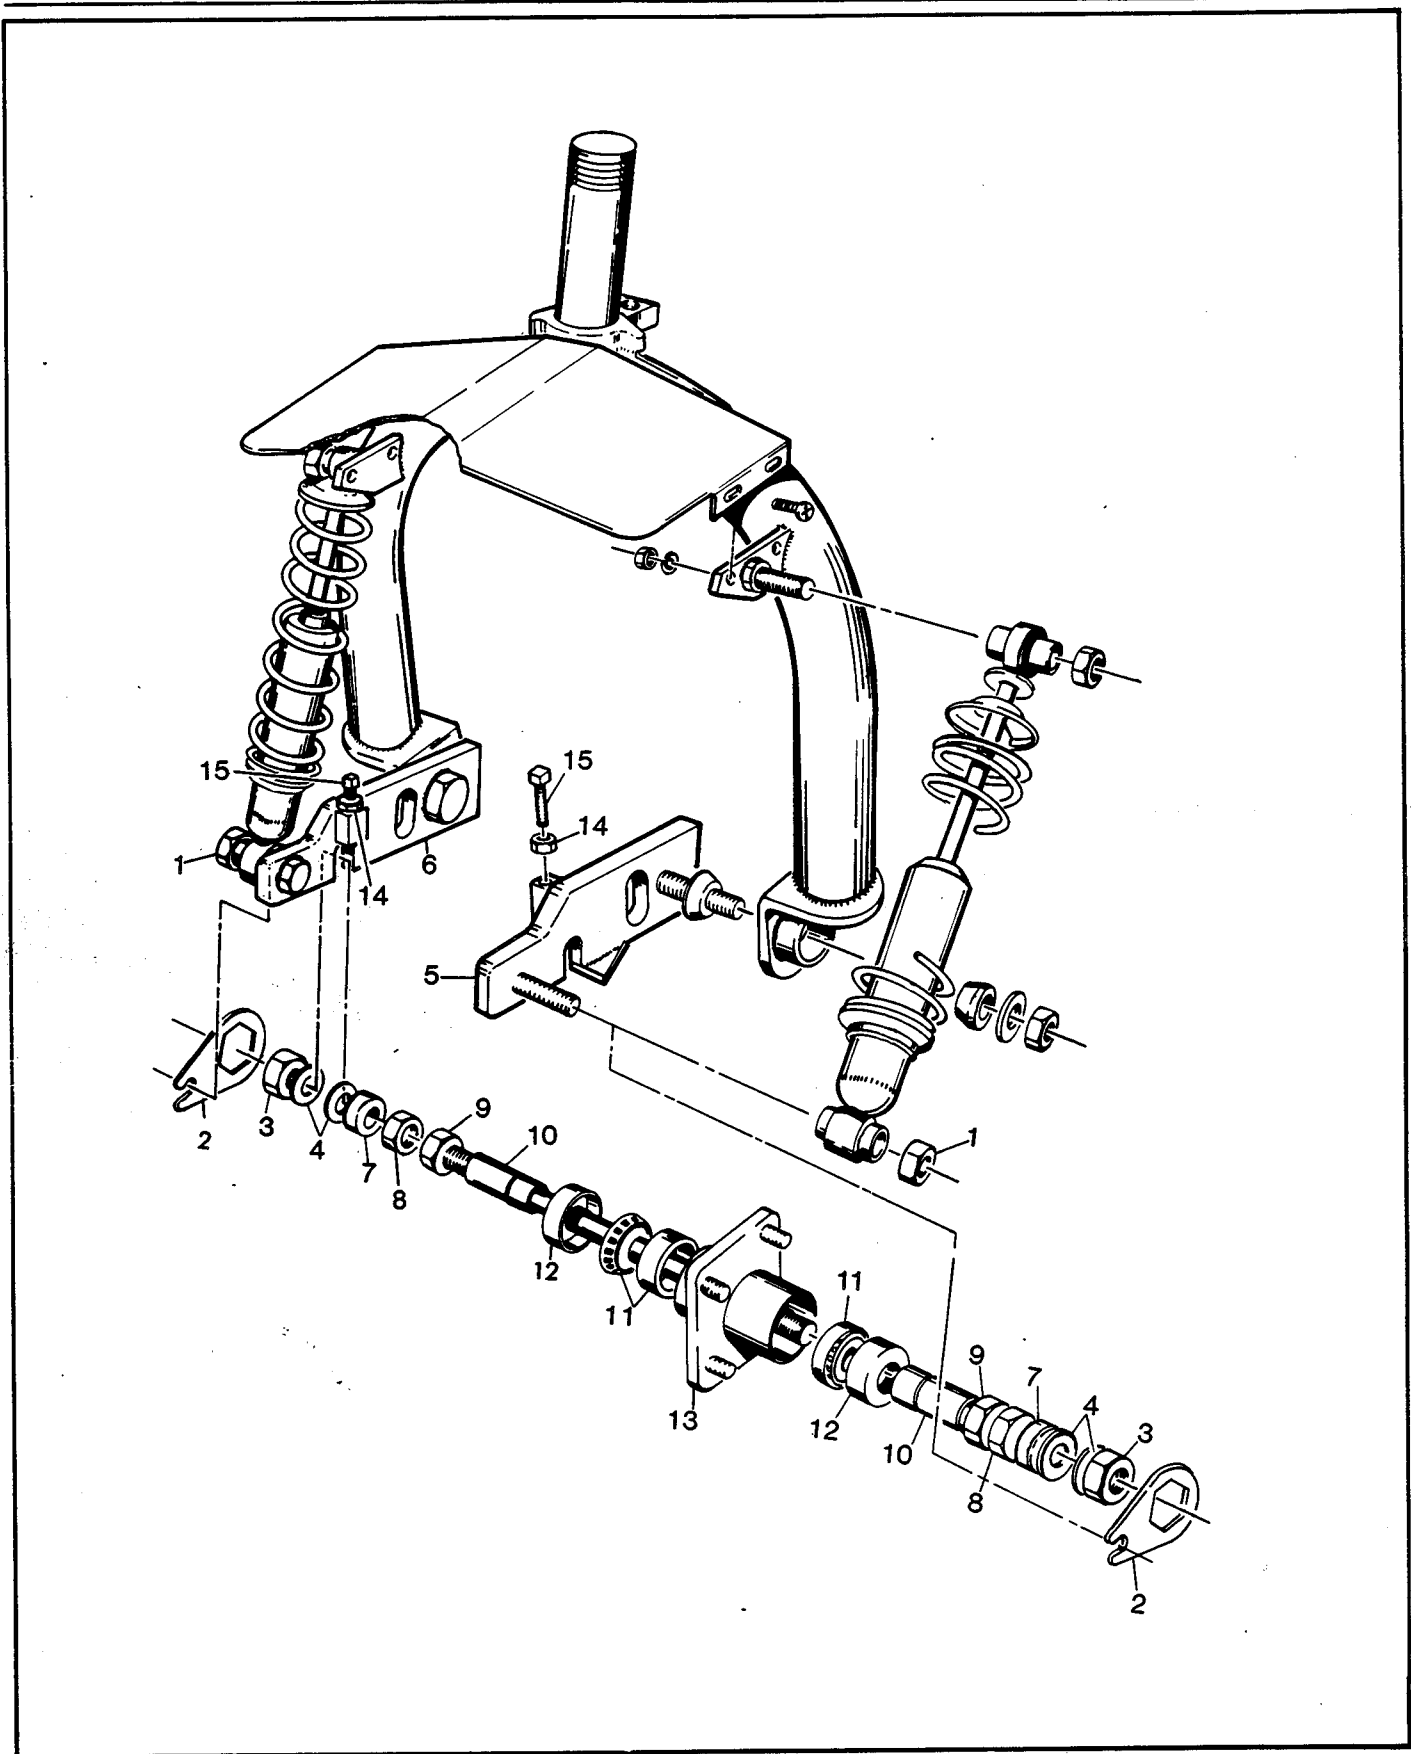

FIG. E-4 FRONT FORK ASSEMBLY
#### 3 WHEEL (FIG. E-4)
(Fig. E-4)
Should the steering tend to pull to one side, align the wheel as follows: Position the vehicle on a flat level surface and set the wheel in a straight position. Loosen the nut (3) at both ends of the axle (refer to Fig. E-4).